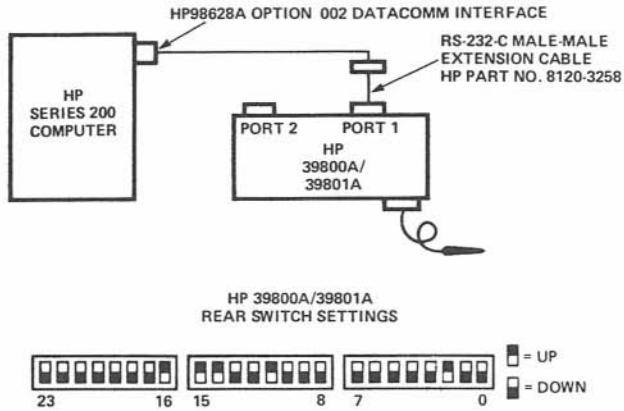

Figure 10-7a.
- Set the switches as shown in Figure 10-7a if connecting the bar code reader to an HP 98628A Datacomm Interface.
- a. Connect the RS-232C cables from the computer to Port 1 of the bar code reader as shown in Figures 10-7a and 10-7b.